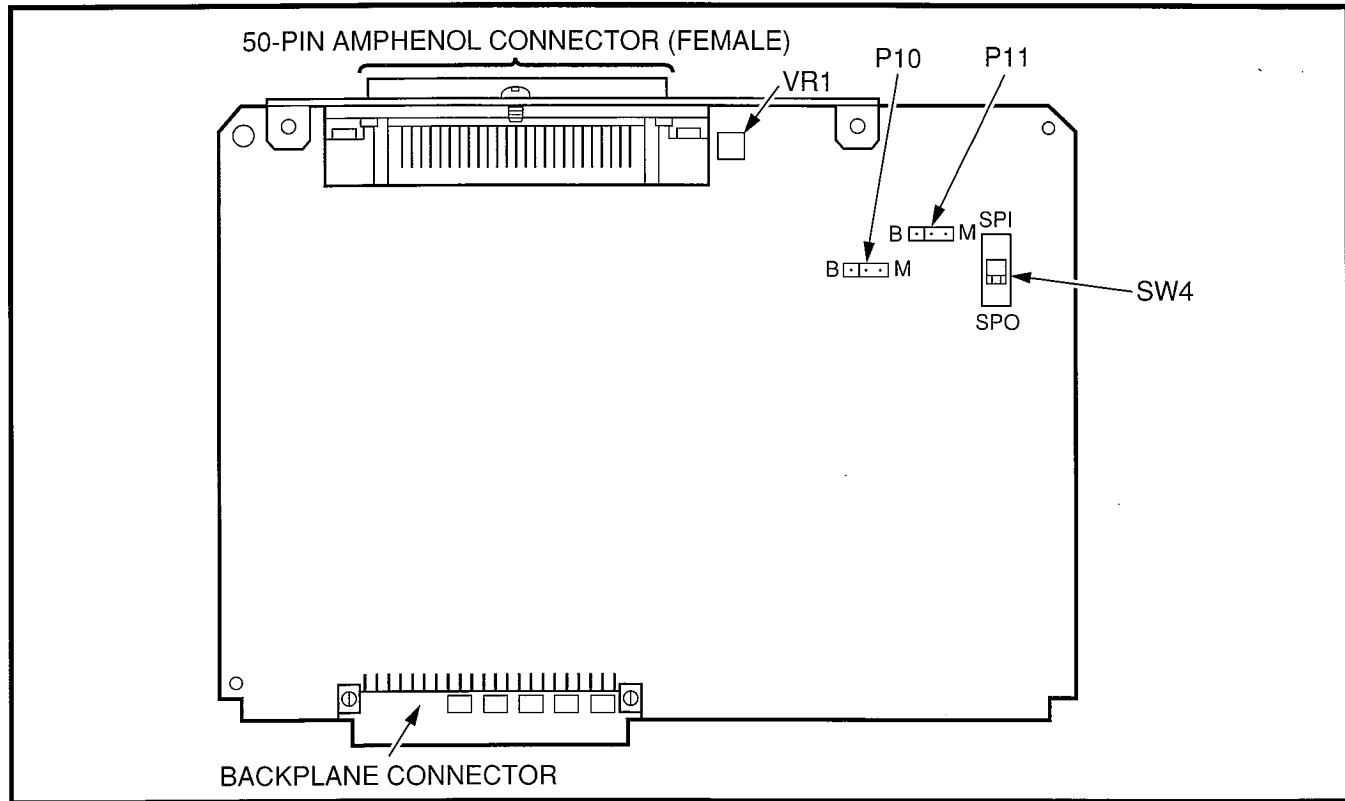

FIGURE 6-13—PEPU CONTROLS, INDICATORS, AND INTERFACE CONNECTORS
10.02 PEPU controls, indicators, and interface connectors are shown in Figure 6-13 and described in Table 6-1.